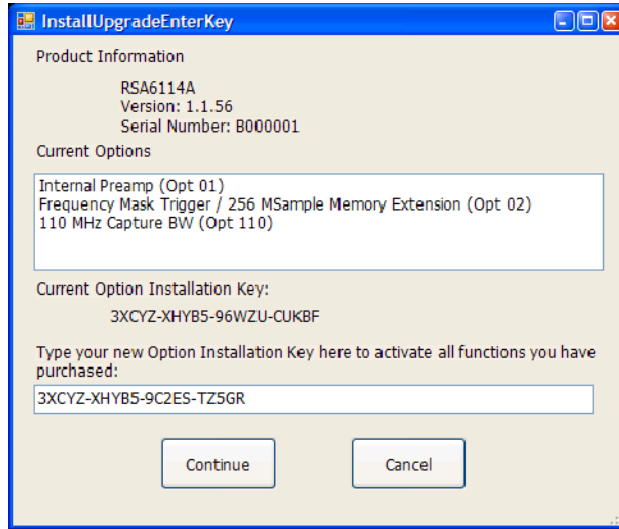

Figure 10: Entering the option installation key
2. The Install Upgrade Enter Key screen appears (see Figure 10).